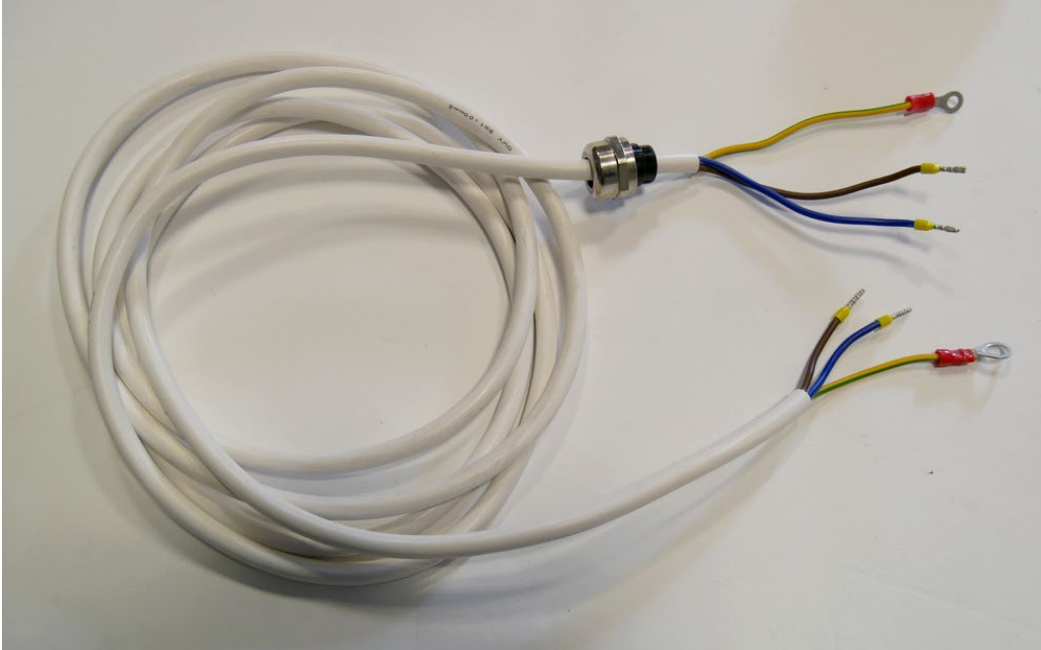
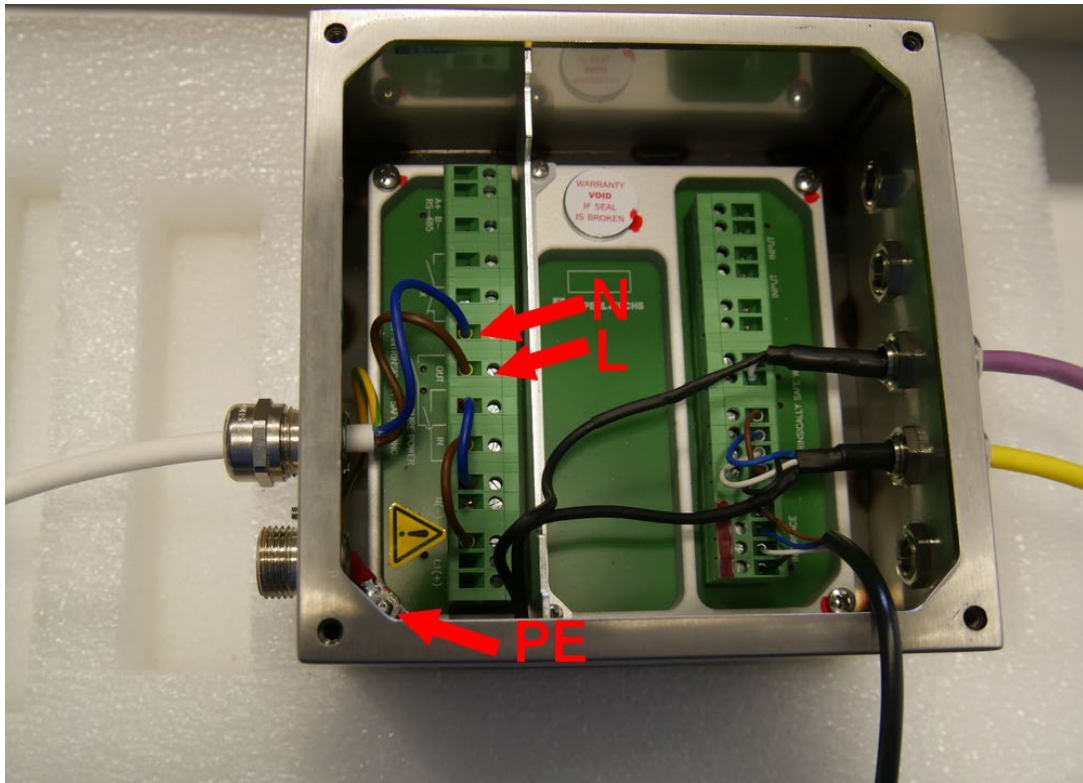
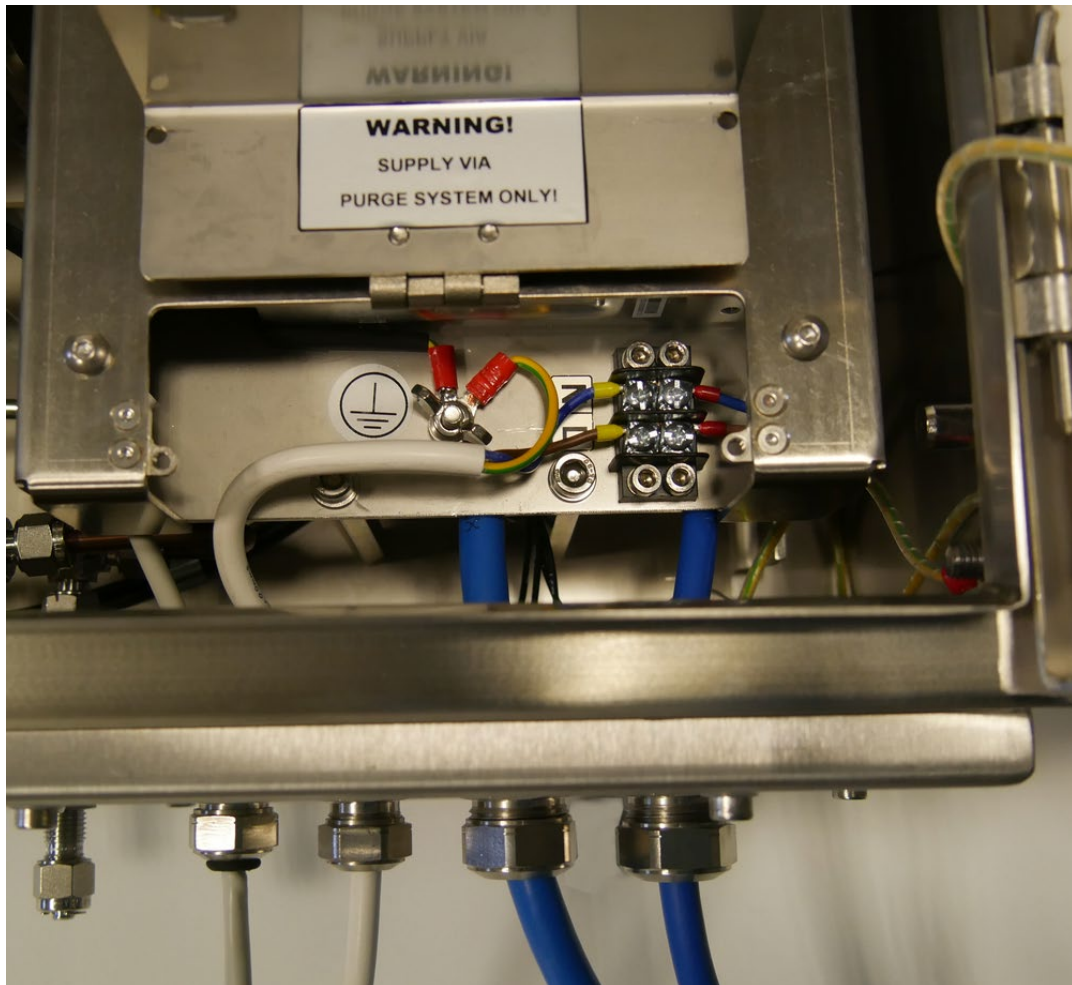

Figure 143. Analyzer supply cable.
Figure 144. Analyzer power supply connection – controller side.
Figure 145. Analyzer power supply connection – analyzer side.
3. Connect the 3x1mm2 power cable (6) (Figure 143) between the purge controller (3) and the analyzer (1) - through the M16 gland (Figure 144 and Figure 145).